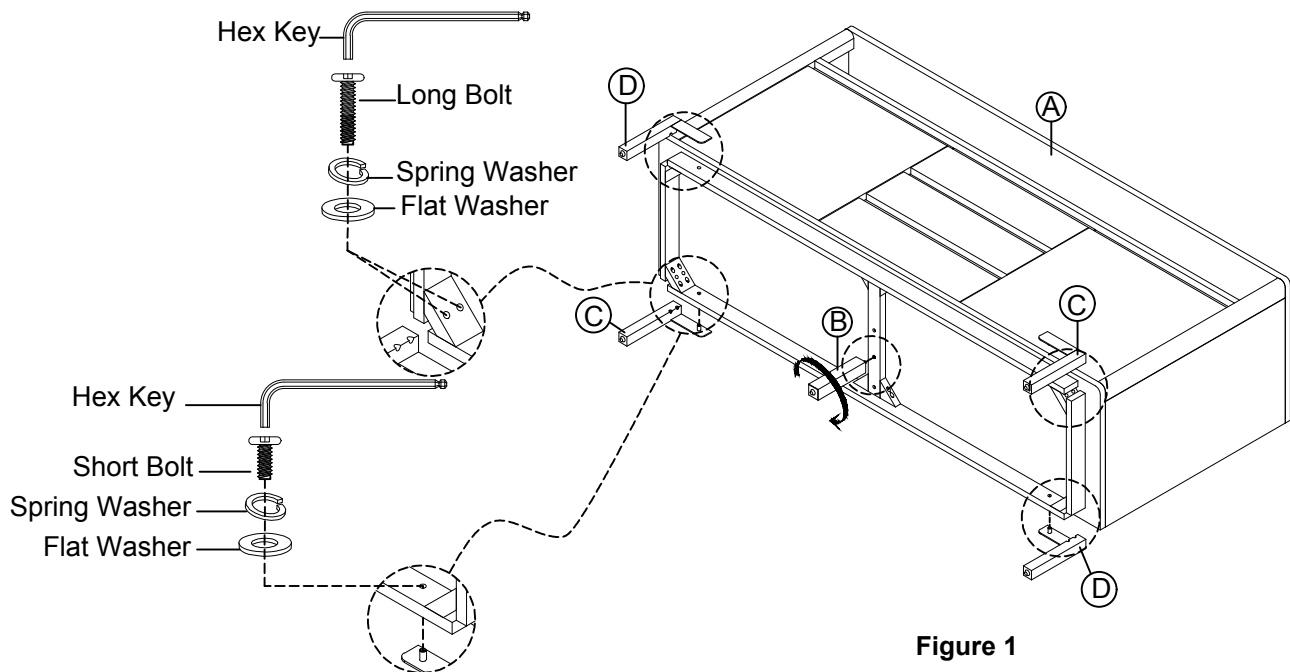

Figure 1
To assemble the Sideboard, attach Right Legs (C) and Left Legs (D) to Sideboard (A) with 2 Long Bolt (3), 1 Short Bolt (4), 3 Spring Washer (2) and 3 Flat Washer (1) for each leg. Repeat this step on each leg. (See Figure 1.)
Tighten Center Support Leg (B) to Sideboard (A) by rotate the leg to the right. (See Figure 1.)